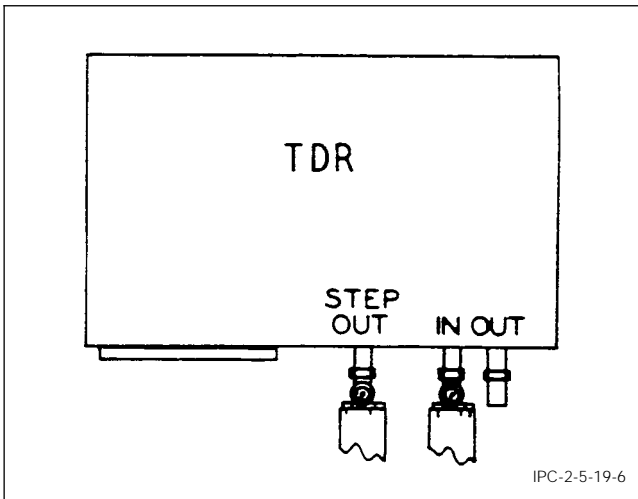

Figure 6 Test Cable Hookup
5.7 Connect the test specimen, one end to the "Step Out" and the other end to "Signal In" (see Figure 6).